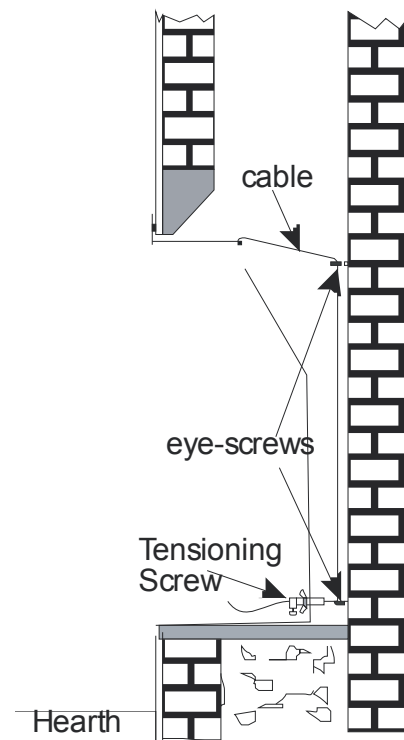

Figure 60
1. With the firebox placed close to the fireplace opening feed the two cables through the matching eye screws (left cable through left hand set eyelets and the same for right hand cable) and then back into the holes at the bottom rear of the firebox (see **Figure 60**).